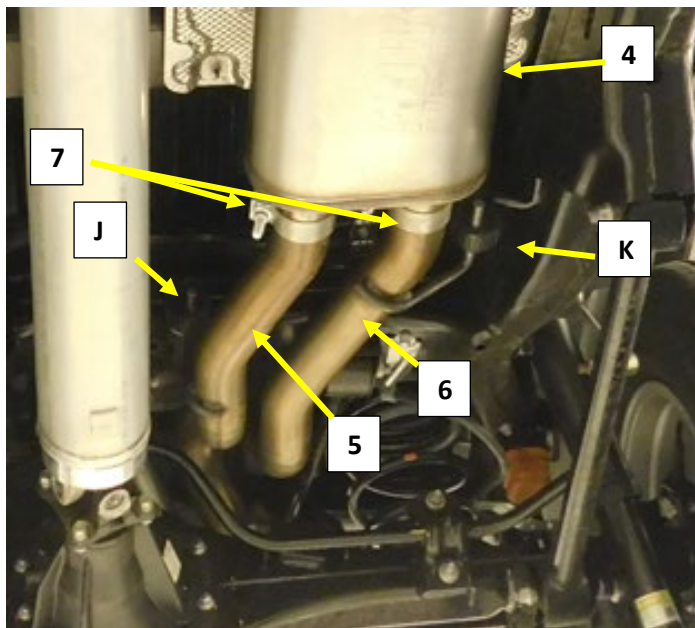

Figure.12
10. Install the Left Muffler outlet pipe (6) over the axle and into the expanded end of the left tail pipe of the tail pipe assembly. **Fig.12**
11. Install the rubber isolator (K) on the left muffler outlet pipe and frame hanger. Do not install the pipe into the muffler at this time.
12. Install the Right Muffler outlet pipe (5) over the axle and into the expanded end of the Right tail pipe of the tail pipe assembly. **Fig.12**
13. Install the rubber isolator (J) on the right muffler outlet pipe and frame hanger. Do not install the pipe into the muffler at this time.
14. Align the muffler outlet pipes (5) (6) with the muffler (4). **Fig.12**